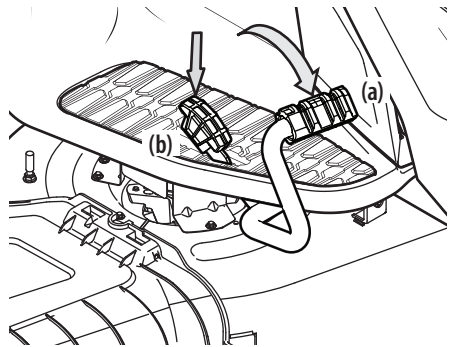

Figure 25
2. To travel FORWARD, slowly depress the forward drive pedal (a) forward until the desired speed is achieved. See Figure 25.
3. To travel in REVERSE, check that the area behind is clear then slowly depress the reverse drive pedal (b) until the desired speed is achieved. See Figure 25.